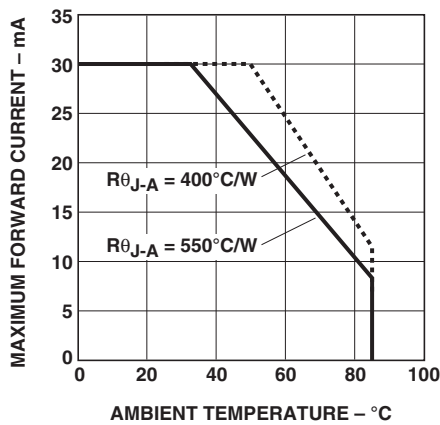

Figure 5. Maximum forward current vs. ambient temperature. Derating based on $T_{JMAX} = 110\frac{1}{2}^{\circ}C$.
1. Derate linearly as shown in Figure 5.